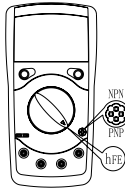

figure 9
J. Measuring Transistor (see figure 9)